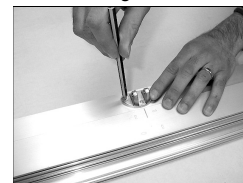

Fig. 4
- Line up the front bracket along the centre line on the moveable part of the frame and mark out the three holes required for the screws (Fig. 4).
- Line up the front bracket along the centre line on the fixed part of the frame and mark out the three holes required for the screws (Fig. 4).